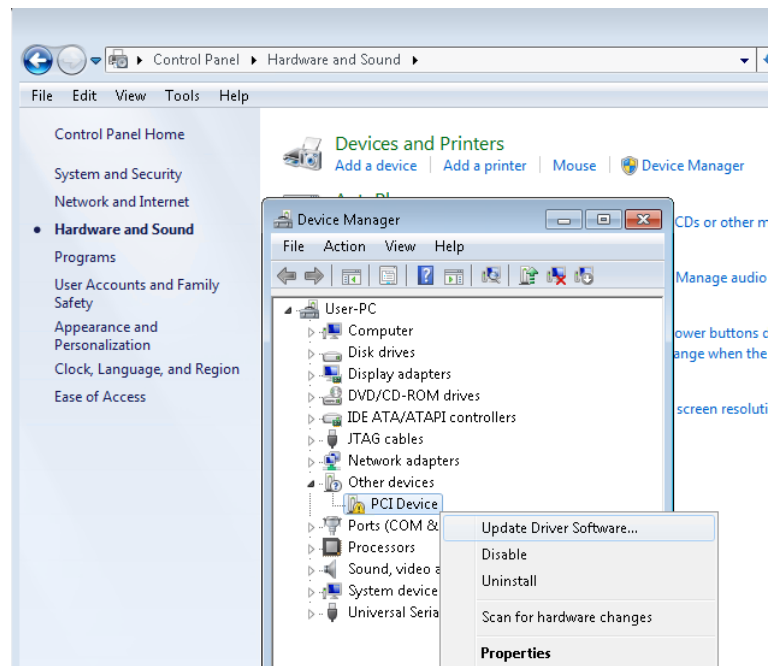

Figure 3-4 Screenshot of launching Update Driver Software... dialog
7. Click Control Panel menu from Windows Start menu. Click Hardware and Sound item before clicking the Device Manager to launch the Device Manager dialog. There will be a PCI Device item in the dialog, as shown in **Figure 3-4**. Move the mouse cursor to the PCI Device item and right click it to select the Update Driver Software... item.